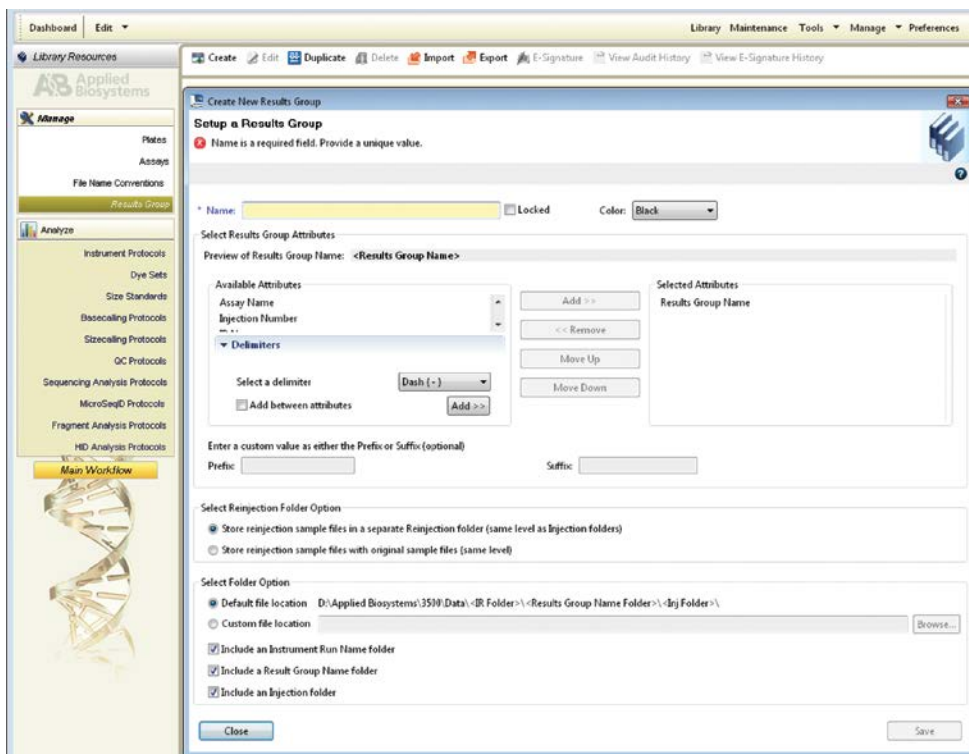

Figure 8. The Create New Results Group window.
- 2.f. To create a new Results Group (Figure 8), navigate to the Library. Select “Results Group”, and then select “Create”. Alternatively, a previously created Results Group may be used.